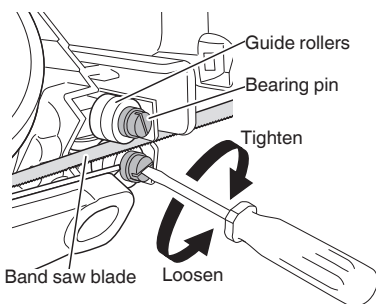

Fig. 16
4. Inspection of band saw blade guide rollers supports and adjustment of gaps (Fig. 16)